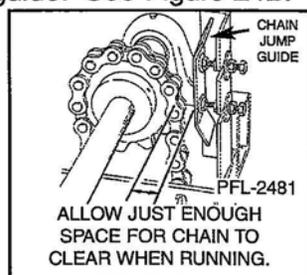

Figure 24B
26. Remove chain jump guide. See Figure 24B.
27. Reinstall chain jump guides. See Figure 24B.